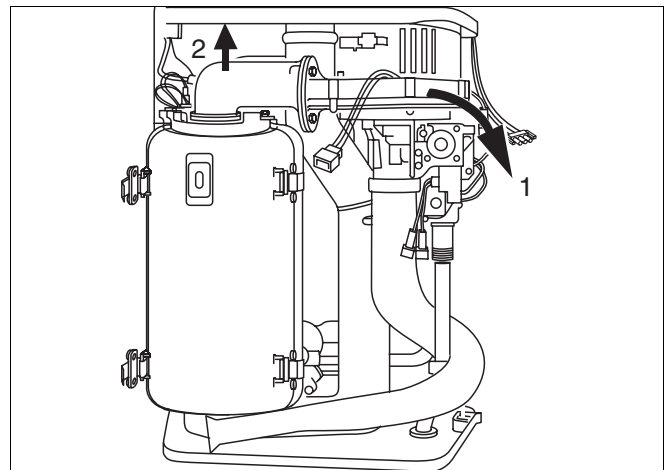

Fig. 54 Replacing the fan on the 600 Series: remove the gas-air unit
- Swivel the gas-air unit forward (fig. 54, item 1)
- Remove the gas-air unit from its bayonet connector and pull upwards to detach (fig. 54, item 2).